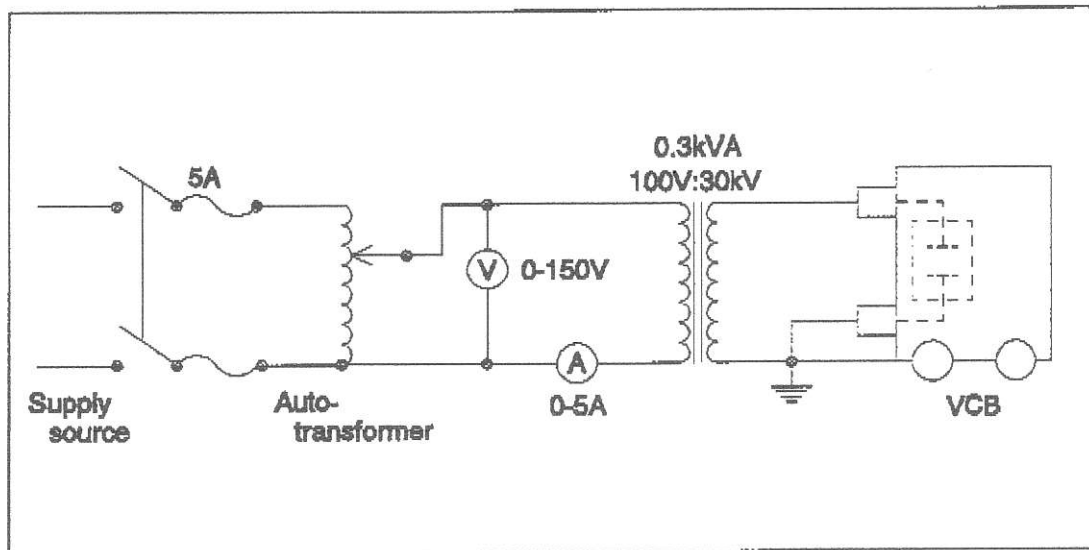

Fig. 49 Example of Withstand Voltage Test Circuit
Fig. 49 is an example of a test circuit that can be used to check the dielectric integrity.
- 1) Test circuit: Fig. 49